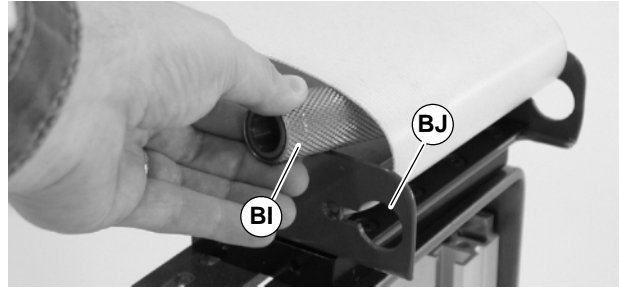

Figure 47
1. Insert pulley (BI of Figure 47) inside belt loop.